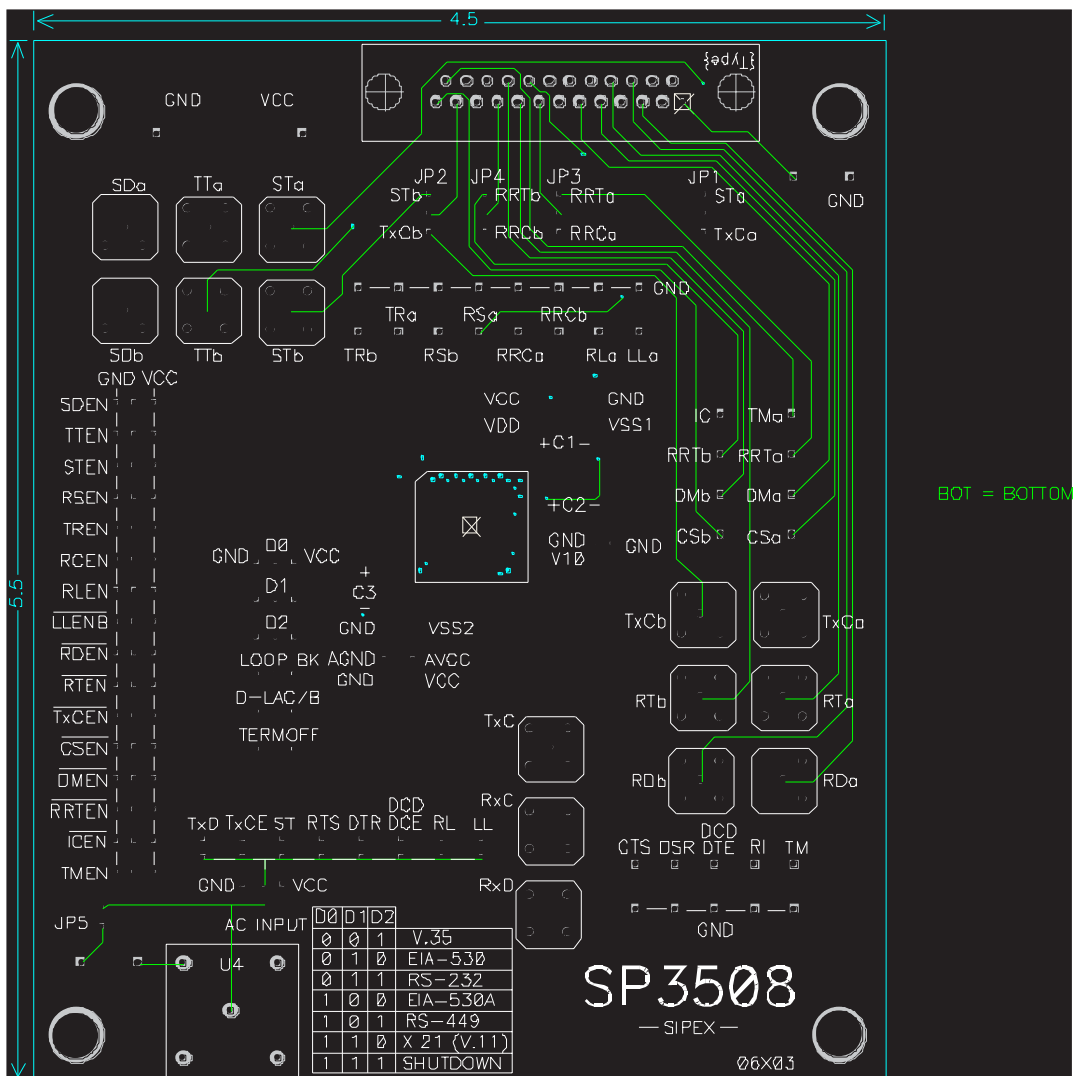

Figure 6. SP3508 Evaluation Board Layout Bottom Layer
3. Figure 3 to Figure 6 shows the layout of the SP3508 Evaluation Board.